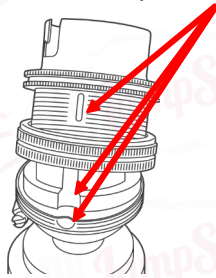

Fig 2
Step 7: Carefully push the connection unit into the bottom section of the lampholder, ensuring the alignment is correct, as shown below (**Fig 2**).